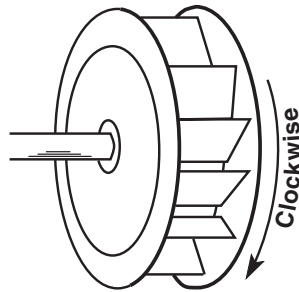

Figure 10
2. **Wheel Rotation:** Direction of wheel rotation is critical. Reversed rotation will result in poor air performance, motor overloading and possible burnout. Check wheel rotation by momentarily energizing the unit (all SQ and BSQ fans have clockwise wheel rotation when viewed from top of fan). Rotation should be clockwise as shown in Figure 10 and correspond to the rotation decal on the unit.
3. Start the fan and shut it off immediately to check rotation of the wheel with directional arrow in the motor compartment, see Figure 10.